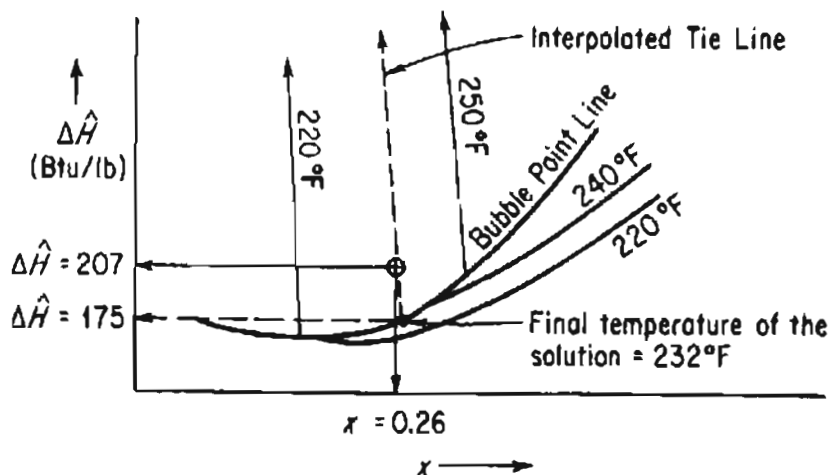

Figure E28.3
On the enthalpy-concentration chart for NaOH-H₂O, for a 26% NaOH solution with an enthalpy of 207 Btu/lb, you would find that only a two-phase mixture of (1) saturated H₂O vapor and (2) NaOH-H₂O solution at the boiling point would exist. To get the fraction H₂O vapor, you have to make an additional energy (enthalpy) balance. By interpolation, draw the tie line through the point $x = 0.26$, $H = 207$ (make it parallel to the 220° and 250°F tie lines). The final temperature of the tie line appears from Figure E28.3 to be 232°F; the enthalpy of the liquid at the bubble point at this temperature is about 175 Btu/lb. The enthalpy of the saturated water vapor (no NaOH is in the vapor phase) from the steam tables at 232°F is 1158 Btu/lb. Let x = lb of H₂O evaporated.